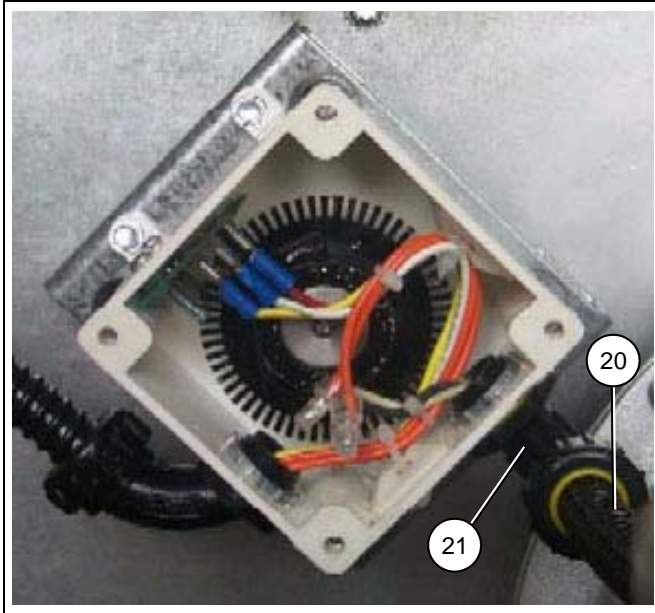

Figure 1
Begin by removing all of the current meter roll sensor components leaving only the wiring (20) and conduit ends (21) as shown in *Figure 1*.